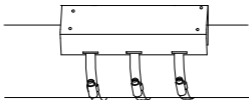

Figure 2-3 Tighten the Hold Hoops
2. Encircle the hold hoops around the cross-bar, and tighten the hold hoops as shown in Figure 2-3.